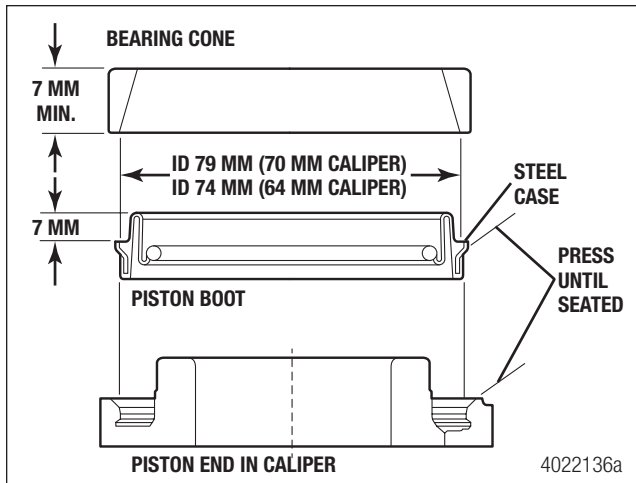

Figure 6.5
11. Apply force to the steel case of the piston boot. A bearing cup that fits the diameter of the steel is suitable installation tool. Figure 6.5.
12. Make sure the tool used clears the boot. Figure 6.5.
13. Apply uniform force with a c-clamp until the case is seated to the caliper housing as shown in Figure 6.5.